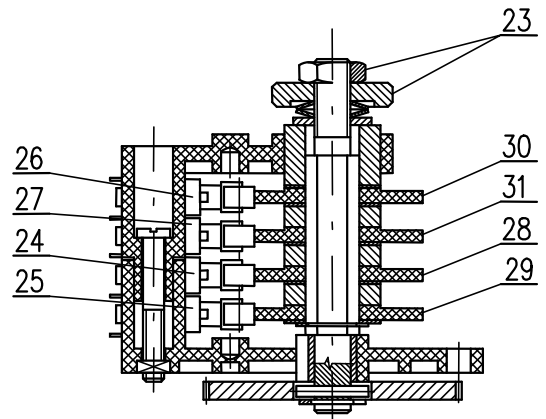

Fig.4
4.2 Adjustment of position-indicating unit (Fig.4)
The EA are in the production plant adjusted to a fixed angle (according to the specification), given on the nameplate. While setting, adjusting and resetting follow these steps (Fig. 4):